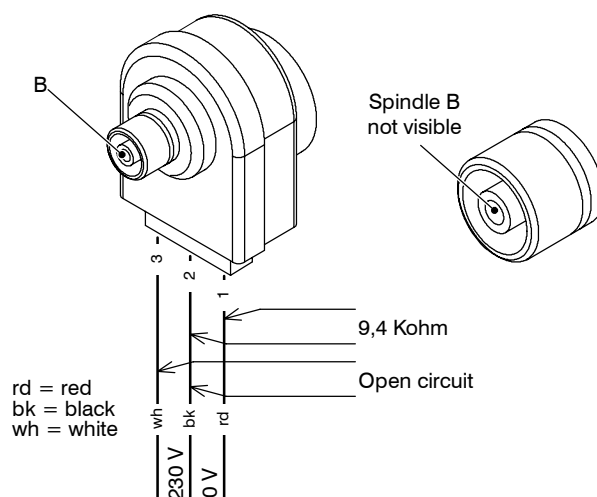

Fig. 8.2 – D.h.w. mode
Fig. 8.2 indicates the relationship between the electric command coming from the electronic control p.c.b. and the position of the actuator B (brass spindle) when the boiler operates in **d.h.w. mode**.
- Reassemble the actuator carrying out the removal operations in the reverse order. When reassembling the actuator, refer to Fig. 8.2 or to the wiring diagram in section NO TAG for the correct wiring connection.